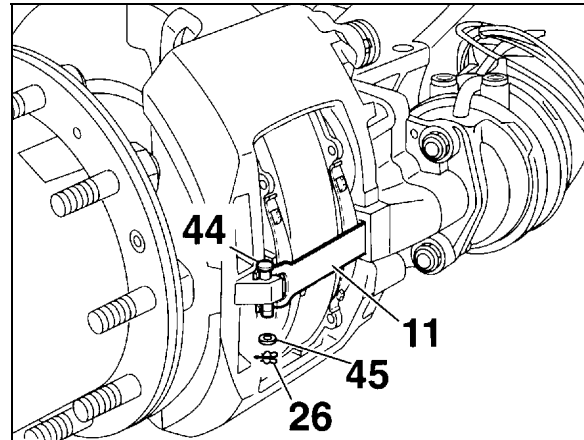

FIGURE 23: CLEARANCE INSPECTION
Brake pads have to be checked on a regular basis depending on the vehicle operation. The remaining thickness of the pads should never be less than 3/32 in (2 mm). To check pad condition without removing the wheel, verify the position of guide bushing (6) relatively to guide sleeve (4) (see Fig. 23). When guide sleeve is in alignment with guide bushing, brake pad thickness has to be checked more precisely with the wheel removed. When replacing brake pads, all four pads on an axle have to be changed at the same time. There is no inner or outer pad, since all pads are the same. Once removed, worn pads should be replaced in their original position.
Remove clip and washer (26 & 45, Fig. 23), push down retainer bar (11), pull out pin (44) and remove retainer bar. Push caliper toward actuator (center of vehicle) for maximum clearance.